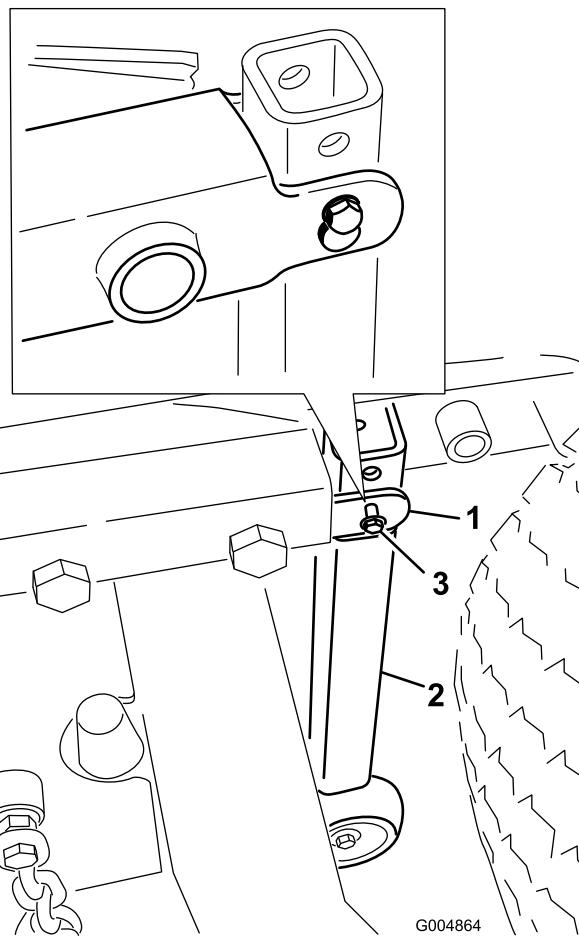

Figure 97
5. Install the vertical tube support assembly to each rear corner of the deck frame with a clevis pin and a 5-16" self-tapping screw pin retainer (Figure 97).